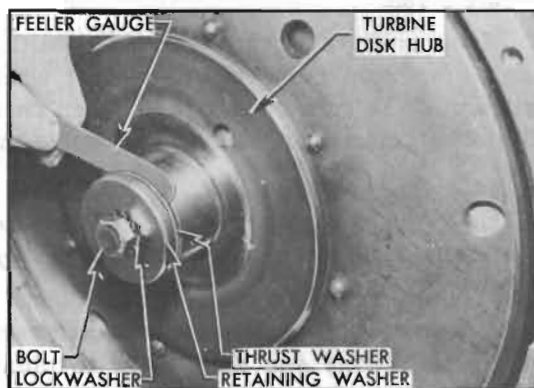

Figure 5-106—Checking Turbine Clearance
15. Check clearance between selective thrust washer and first turbine hub, using feeler gauges. Clearance should be between .002" and .009". See figure 5-106.